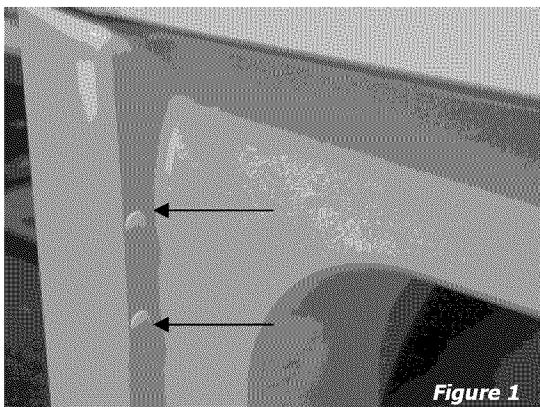

Figure 1
- 1 Open door and remove four plugs in the door opening opposite the hinges. Retain all parts for use later, unless otherwise noted. (Figure 1).